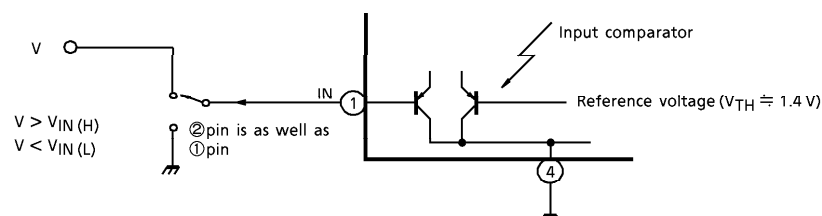

Fig.1
(1) Input circuit
Input circuit is shown in Fig.1. It's a "Low active" type voltage comparator that's one input connect to Input terminal (pin ①, or ②) and the other to built-in temperature compensated voltage reference ($V_{TH} = 1.4V$ Typ.)